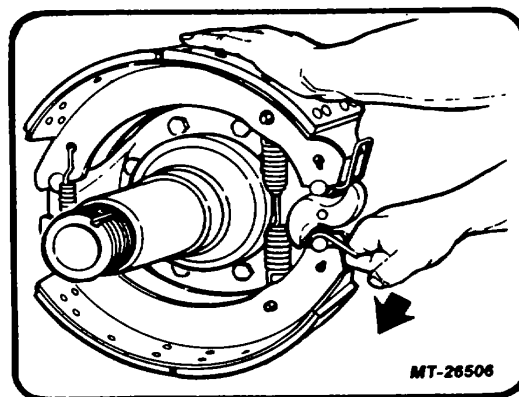

Fig. 10 Disconnecting Roller Retainer
3. Rockwell "Q" Series brake groups (Fig. 10) have removable anchor pins with bushings and open end anchor location on brake shoes.
Rockwell "G" Series Brake Group (Fig. 10)